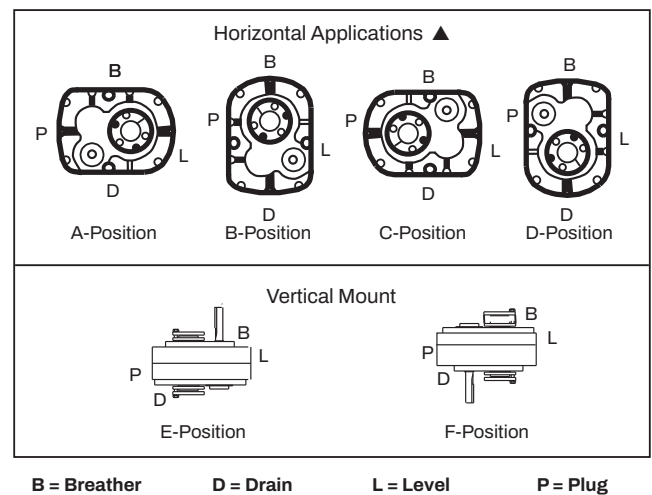

Figure 1 - Mounting Positions
2. Determine the running positions of the reducer. (See Fig. 1)
The running position of the reducer in a horizontal application is not limited to the four positions shown in Figure 1. However, if running position is over 20° either way from sketches, the oil level plug cannot be safely used to check the oil level, unless during the checking the Torque-Arm is disconnected and the reducer is swung to within 20° in positions “B” and “D” or 5° in positions “A” and “C” of the positions shown in Figure 1.
① Refer to Fig. 1 on page 2 for mounting positions.
② U. S. Measure: 1 quart = 32 fluid ounces = .94646 liters.
Note: If reducer position is to vary from those shown in Figure 1, either more or less oil may be required. Consult Mechanical Power Transmission Support.